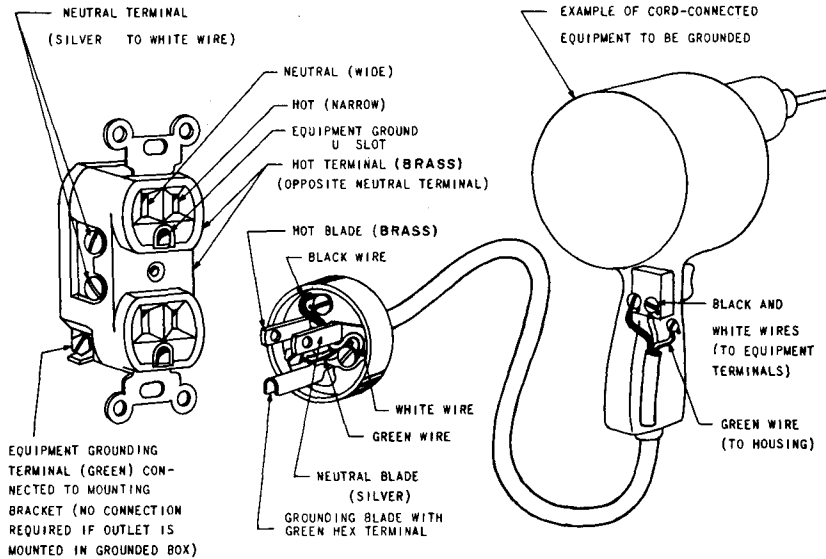

Fig. 1 — Wiring of 120-Volt Standard Plug and Receptacle
3.02 The standard plug (Fig. 1) consists of three blades which fit into a 3-slot receptacle. The three blades include a copper-colored blade for the hot connection, a silver-colored blade for the neutral connection, and a round or U-shaped blade for grounding. The cord is connected to the plug with the black wire to the hot terminal, white wire to the neutral terminal, and green wire to the ground terminal.
4.01 The connections for a standard 3-wire system are illustrated in Figure 1.